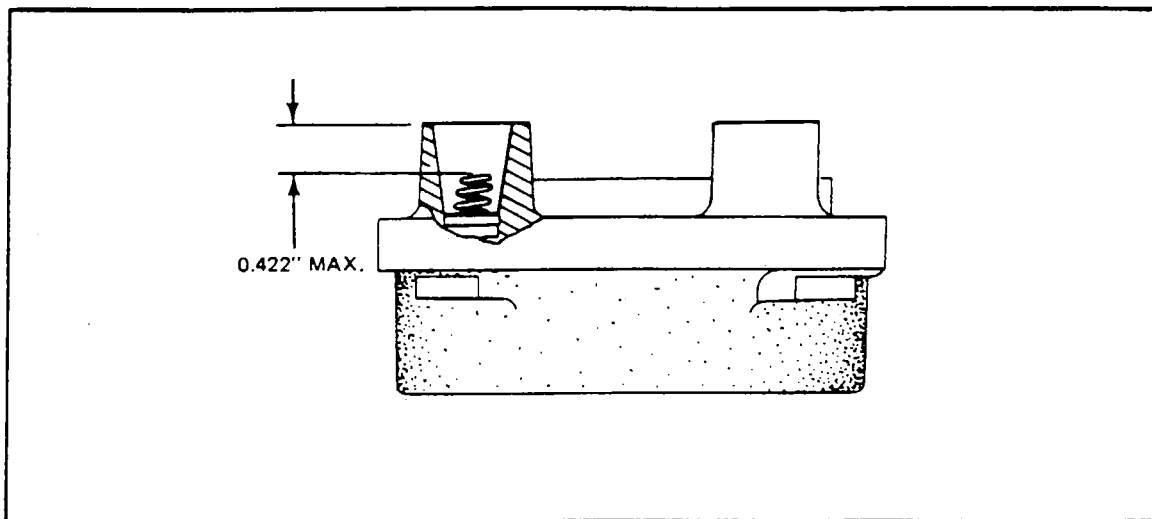

Figure 7A-28. Height of Spring in Distributor Block Tower
- d. Check height of contact springs (0.422 maximum from top of block tower to spring). (Refer to Figure 7A-28.)
- f. Examine the contact points for excessive wear or burning. Figure 7A-8 shows how the average contact point will look when surfaces are separated for inspection.